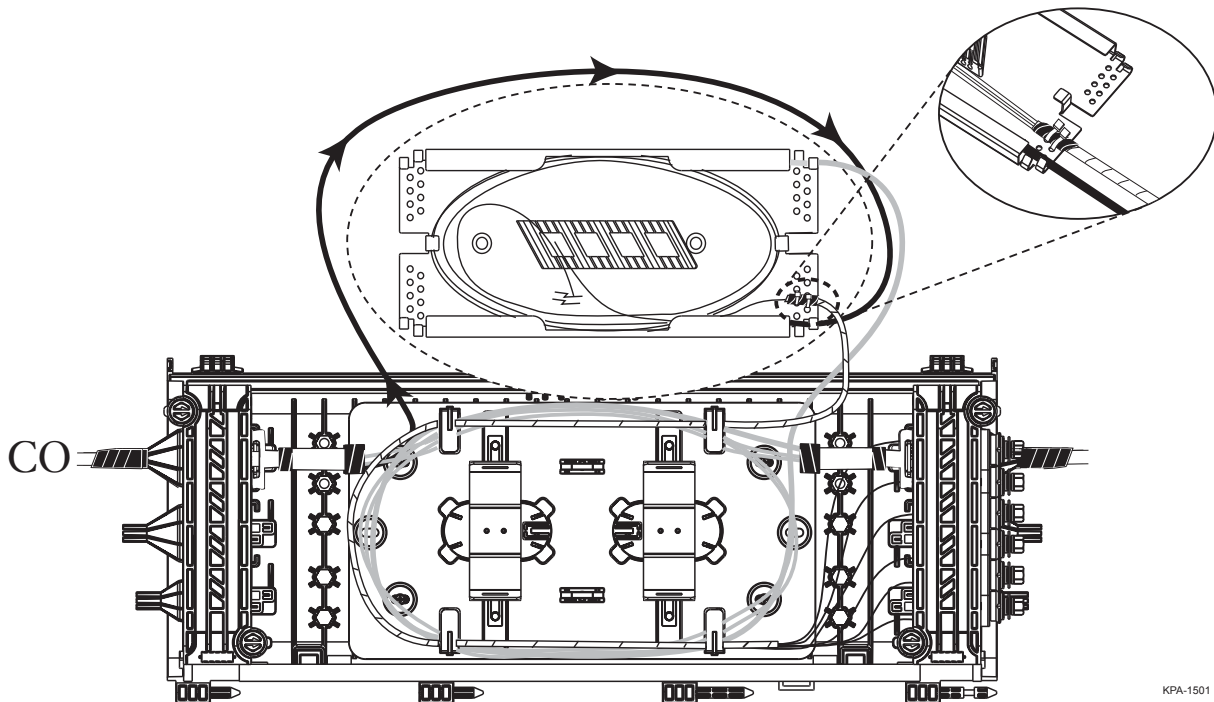

Figure 21 — Spiral Wrap Pigtails and Route to Splice Tray
Step 2: Attach buffer tubes and 900 micron pigtails to the splice tray per the instructions provided with the splice tray (Figure 21).